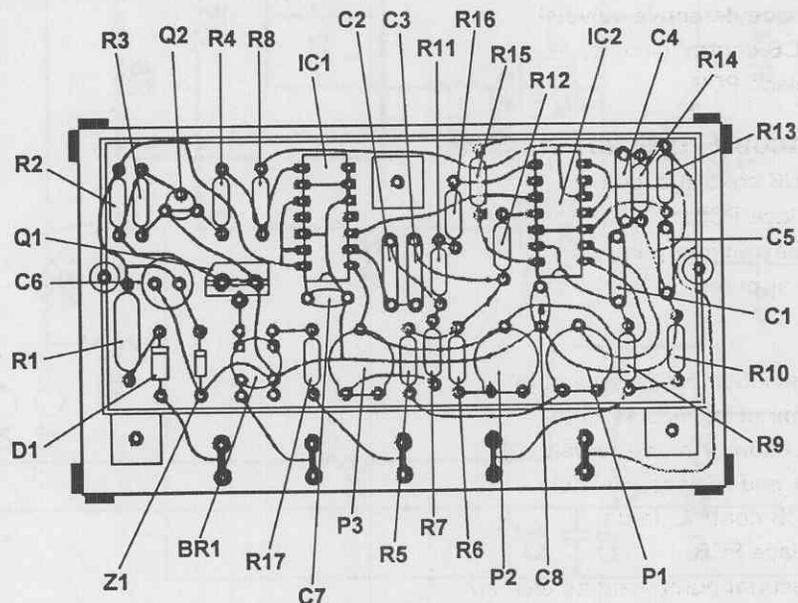

Figure 3-2. Schematic diagram.
a. The schematic diagram and an illustration of the PCB control circuit are provided in figures 3-2 and 3-3 to assist you in understanding the operation of the control circuit.